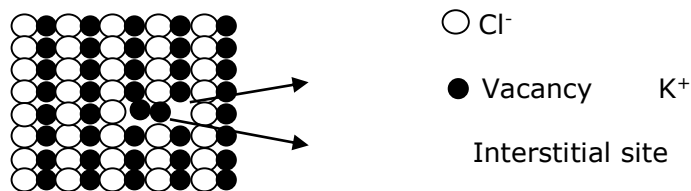

**Fig 5.26. Schottky defect**
*It refers to the missing of a pair of positive and negative ions in an ionic crystal. Here two oppositely charged ions are missing from an ionic crystal, therefore a cation – anion divacancy is created. (Fig 5.26) This is known as Schottky defect or Schottky imperfection since a pair is missing, the electrical neutrality is maintained.*